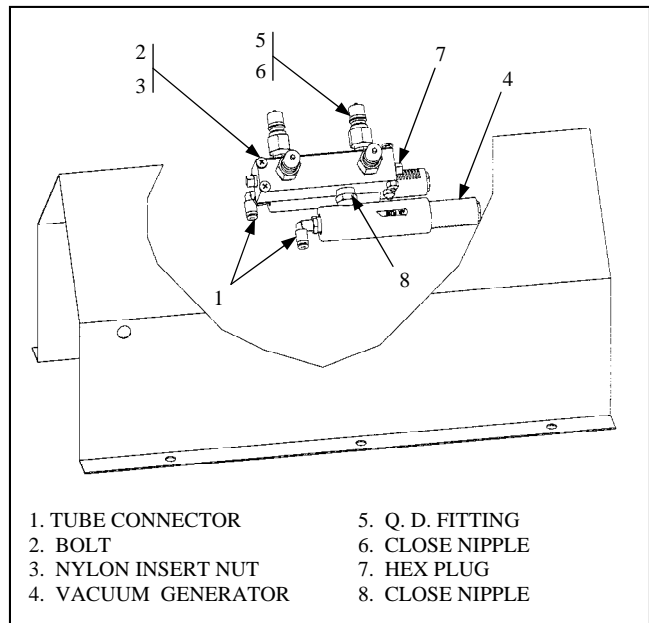

Figure 5-3. Drain Tool Vacuum Group
5.3.2.1 Drain Tool Vacuum Group. The Drain Tool Vacuum Group is contained inside of the Vacuum System Assembly cover. Follow the maintenance step in Paragraph 5.3.2 before beginning the next maintenance steps. See Figure 5-3 for the following steps.
- a. Remove quick disconnect fittings (5) and close nipples (6).